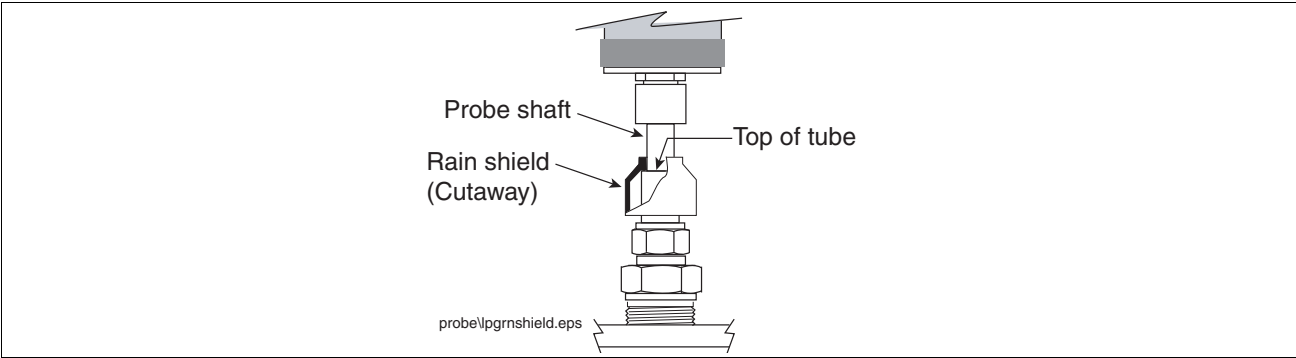

Figure 29. Rain Shield Installed Position.
1. Slide the rubber rain shield onto the probe shaft (narrow end up) and push it all the way up to the probe canister. Gently slide the probe down into the tube until it rests on the bottom of the tube. Slide the rain shield down the shaft until it rests against the top end of the tube. The lower (wide) end of the shield may be a little over the top of the gland nut. Note: the rain shield is intended to keep water out from between the probe's shaft and the inside of the tube so you don't want to force the shield down below the top end of the tube (see Figure 29).